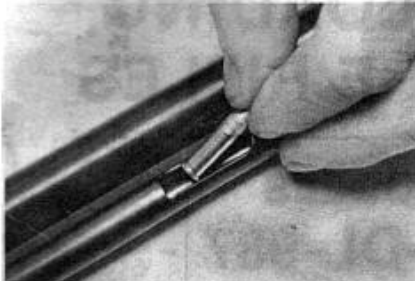

FIGURE 3
1. To Load — With the safety in the "ON" position, pull outward on the operating handle and allow the bolt to close. Turn the magazine tube cap to unlock the magazine and withdraw the inner magazine tube until the red colored follower clears the loading port in the magazine. With the **MUZZLE POINTED UPWARD IN A SAFE DIRECTION**, insert the cartridge's rimmed end first. See Figure 3. The magazine is filled to capacity when a cartridge is visible in the loading port. The magazine will come under spring tension, so securely grip the magazine tube cap and carefully push the magazine tube down into position and turn to lock.